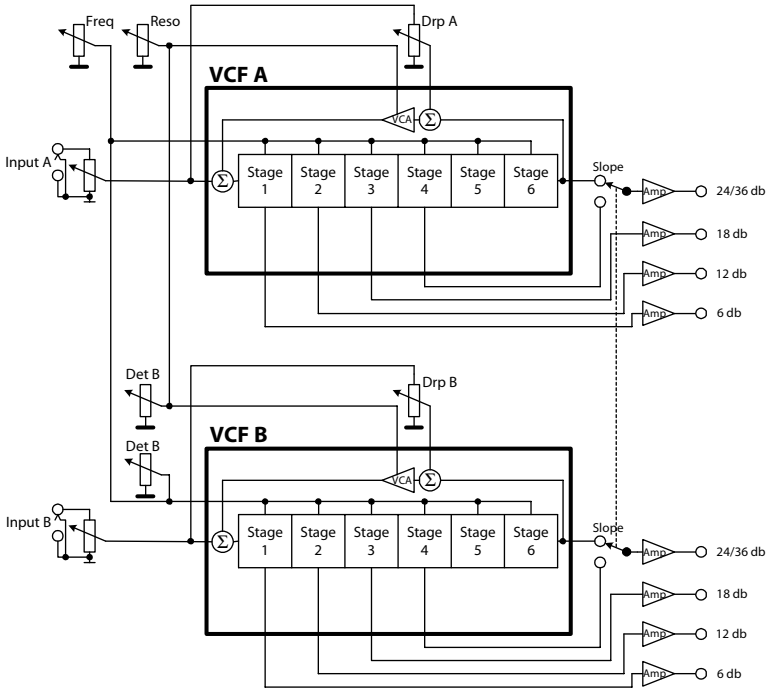
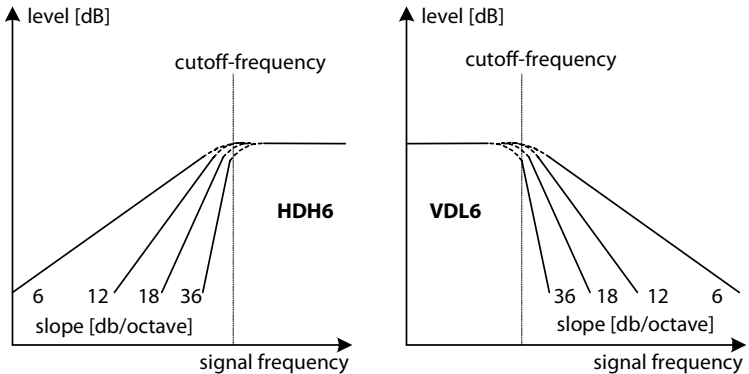

Fig. 3 Structure of HDH6/VDL6
Fig. 5 HDH6/VDL6 slopes
Fig. 3 shows the structure of the filters HDH6/VDL6. The CV-control jacks 10-14 for cutoff and resonance were omitted.
6 db, 12 db, 18 db, 24/36 db A/B-output jacks: The jacks (15-22) provides the different slopes at the filter stages 1, 2, 3, 4 and 6 (see Fig.3). The *slope switch* (23) selects for both filters VCF A and VCF B commonly the stage 4 (24 db/octave) or stage 6 (36 db/octave) for the output jacks 21 (VCF A) and 22 (VCF B). Fig. 5 illustrates for the **HDH6/VDL6** different slopes.